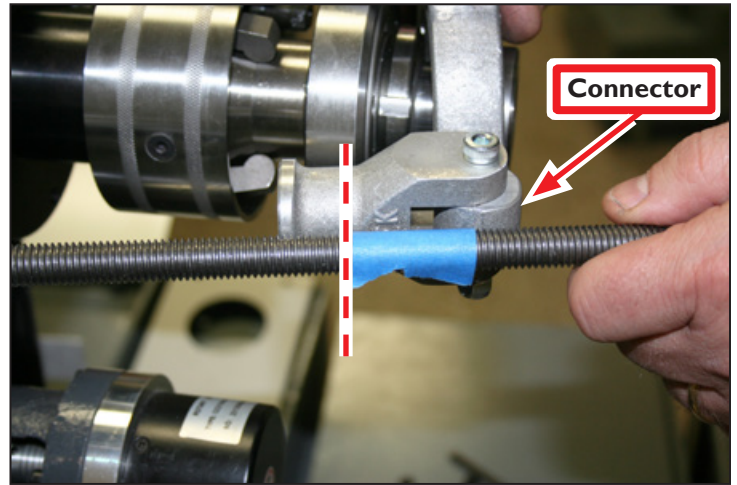

**Figure 12**
14. Temporarily insert Collet Closer into lathe's spindle bore (see **Figure 12**).